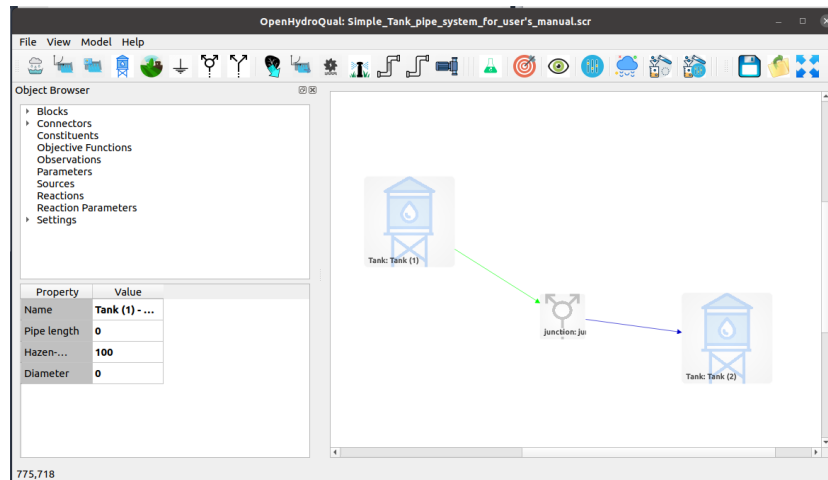

Figure 4: GUI screenshot for the pipes in series example
4. **Add pipes:** Use two-way pipes  to connect Tank (1) to the junction and another one to connect the junction to Tank (2). Your screen should look like what you see in figure 4.